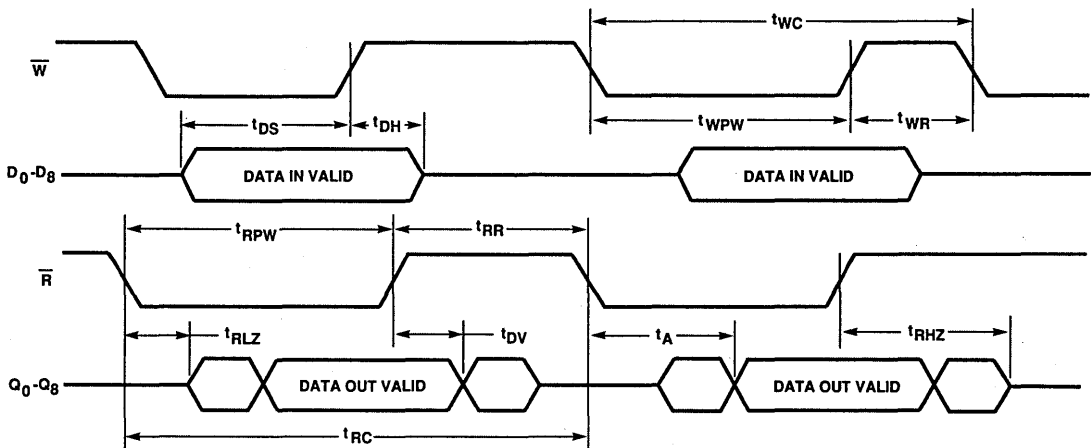

Figure 3. Asynchronous Write and Read Timing
The HIGH state of the Full Flag ( $\overline{FF}$ ) indicates that the FIFO is capable of accepting data. The falling edge of Write (W) initiates a write cycle. (See Figure 3.) Data appearing at inputs D0-D8  $t_{DS}$  prior to and  $t_{DH}$  after the rising edge of W will be stored sequentially in the FIFO.
The HIGH state of the Empty Flag ( $\overline{EF}$ ) indicates that the FIFO is ready to output data. The falling edge of Read ( $\overline{R}$ ) initiates a read cycle. (See Figure 3.) Valid data appears on the outputs Q0-Q8  $t_x$  after the falling edge of  $\overline{R}$ , and remains until  $t_{DV}$  after the rising edge of  $\overline{R}$ . Q0-Q8 return to a high-impedance state when a valid read is not in progress.